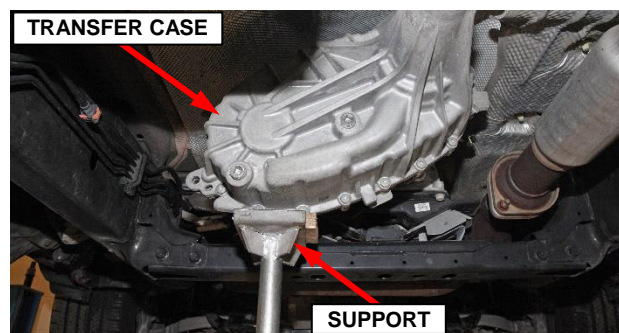

Figure 17 – Support Transfer Case
22. Support the transfer case with a suitable transmission jack or lifting device during crossmember and transmission mount removal (Figure 17).
9. Lower the transfer case until fully supported by the transmission crossmember then remove the transmission jack or lifting device (Figure 17).